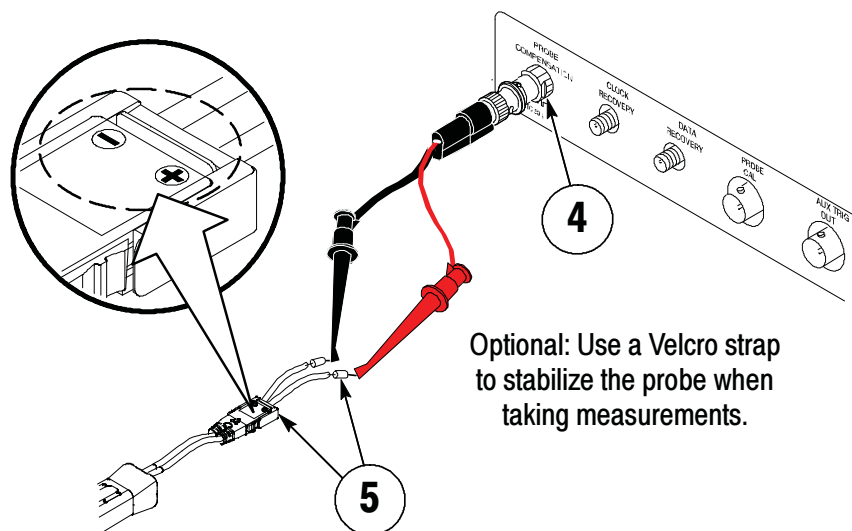

Figure 4: Connect to the probe for functional check
4. Connect the BNC (M)-to-Minigrabbers (with an SMA (M)-to-BNC (F) adapter) to the oscilloscope Probe Compensation connector. See Figure 4.